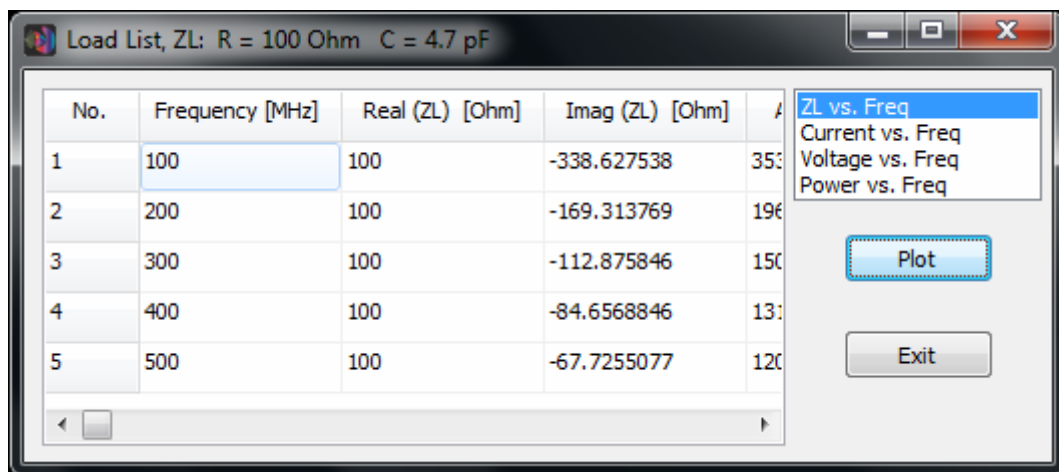

Fig. 13.9: The Load List dialog box.
If the selected segment has a load on it, the Load List button is enabled. Pressing this button displays the Load List dialog box, Fig. 13.9. This dialog box shows the list of load impedances, currents, voltages and powers in the selected segment versus frequency. Clicking on an item in the list and pressing the Plot button will plot the selected item as a function of frequency.
4. Press the Load List button to display the Load List dialog box, Fig. 13.9. This dialog box shows the list of load impedances, currents, voltages and powers in the selected segment versus frequency. Selecting an item from the list and pressing the Plot button will plot the selected item as a function of frequency.